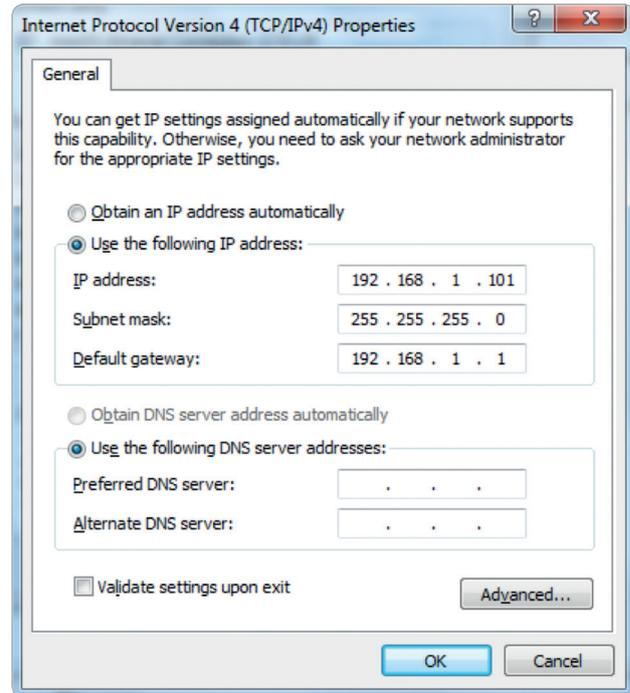

Figure 4. Configuring **Internet Protocol Version 4 (TCP/IPv4) Properties**.
4. Insert the following information, and click **OK** (Figure 4).